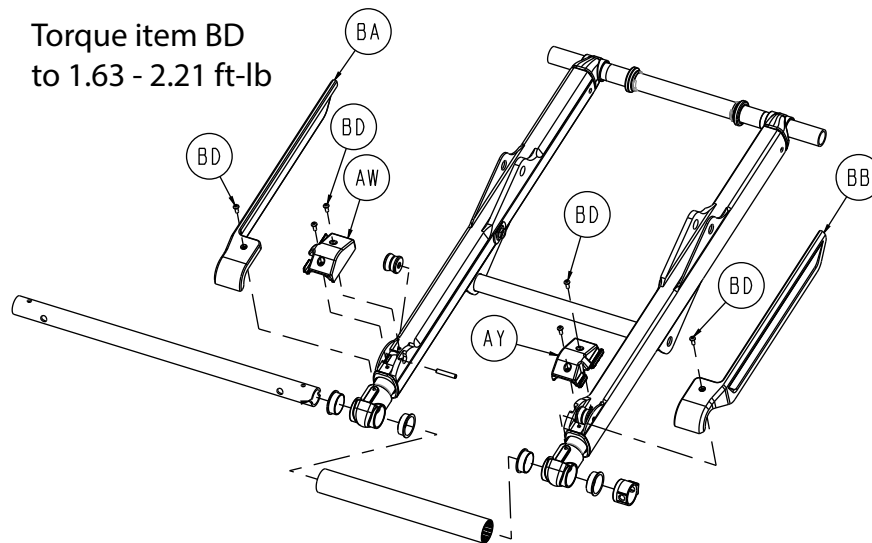

Figure 56 – Lift assembly components
4. Using a T25 Torx driver, remove the two button head cap screws (BD) that secure the roller cover (AW, AY) to the outer lift tube (Figure 56). Remove and save the roller cover. Save the screws.